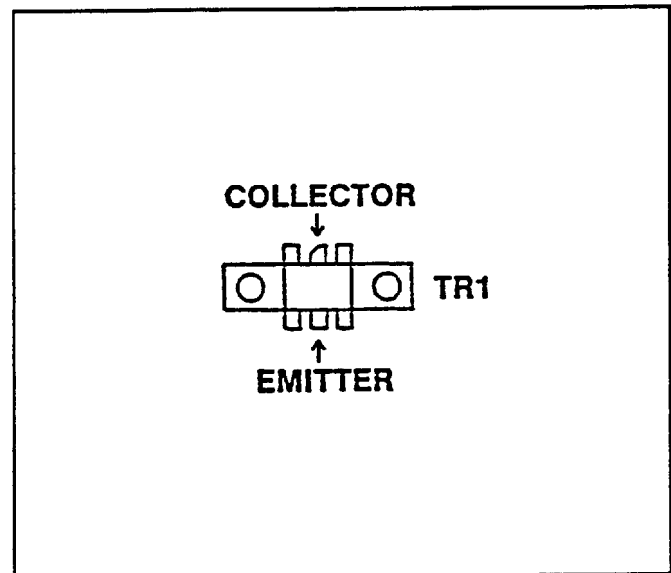

FIGURE 3 - PA TRANSISTOR LEAD IDENTIFICATION
4. Remove all excess solder from the board, and clean the holes to allow the new transistor to be positioned properly and the capacitors to fit into proper locations. Refer to Figure 3.